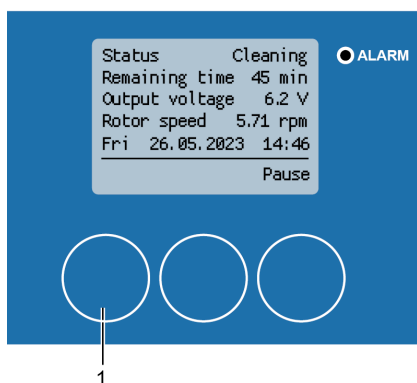

Fig. 167: Abort cleaning process
1. Press **[Abort]** (Fig. 167/1) to abort the cleaning process.